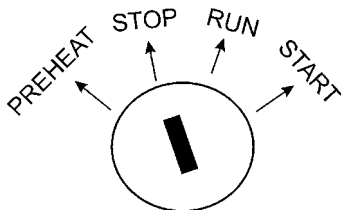

Figure 53. Ignition Switch ‘STOP’
4. Turn the ignition key to ‘STOP’ (Figure 53).